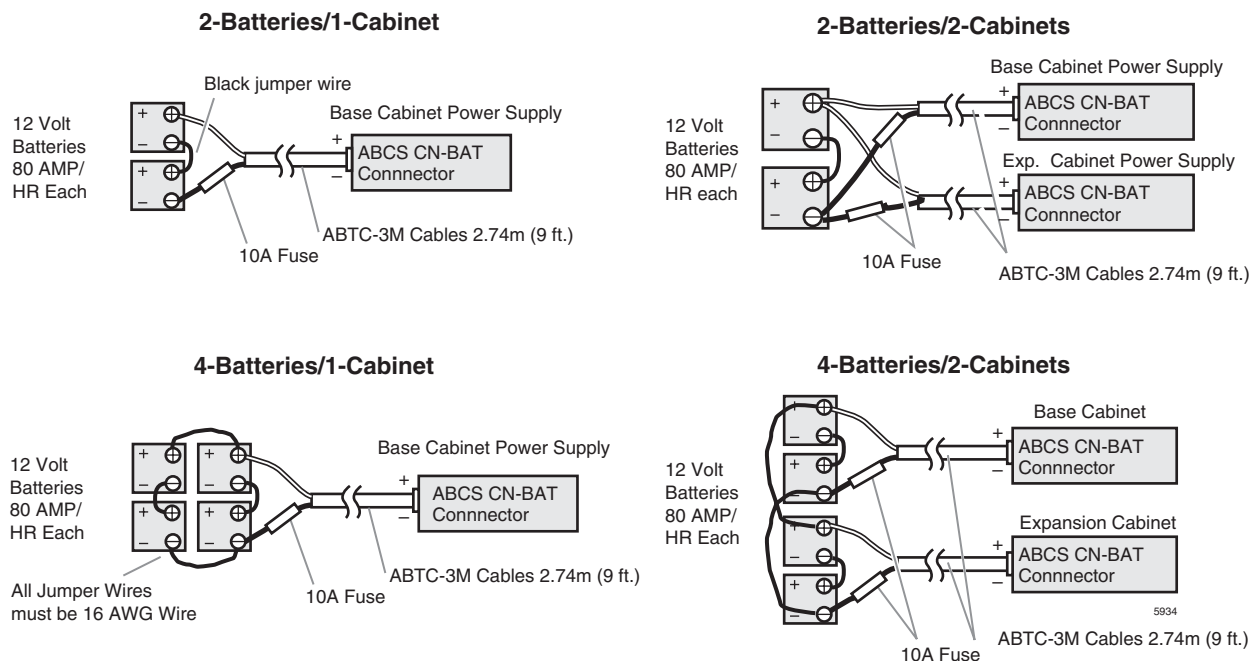

Figure 2-9 Battery Wiring Diagram
1. A black jumper wire is supplied with the ABTC-3M cable. Connect the black jumper wire from the positive terminal of one 12VDC battery to the negative terminal of the second 12VDC battery (see Figure 2-9).